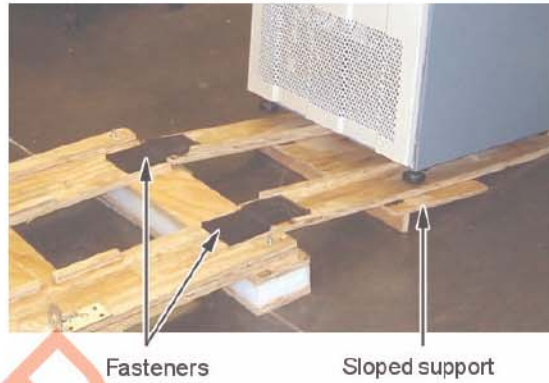

Figure 1-4: Pallet Ramps
- 11 Attach ramps to pallet using Velcro fasteners and slide the sloped support underneath the ramps. See Figure 1-4.